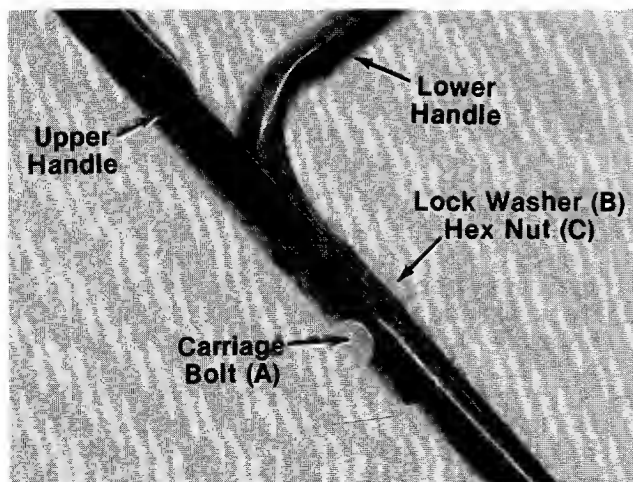
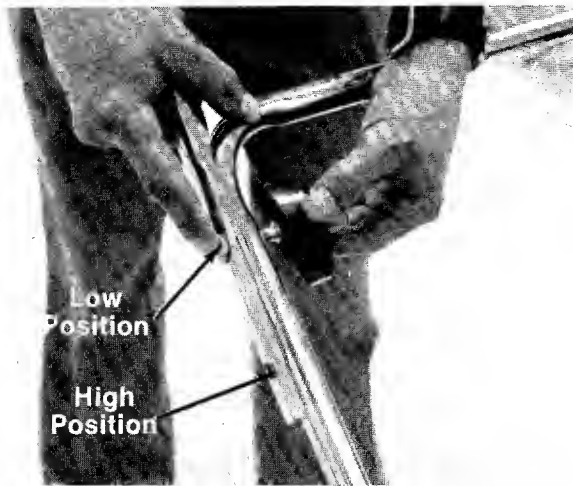

FIGURE 3.
FIGURE 16.
4. There are two height positions for the handle. Place upper handle in position over lower handle, selecting hole for either high or low position. Refer to figure 16. Secure upper handle with two curved carriage bolts (A), lock washers (B) and hex nuts (C). See figure 3.
The upper handle can be adjusted to a high or low position. The adjustment is made by removing the two knobs or hex nuts and lock washers, removing the two curved carriage bolts and reassembling in the other position. See figure 16.